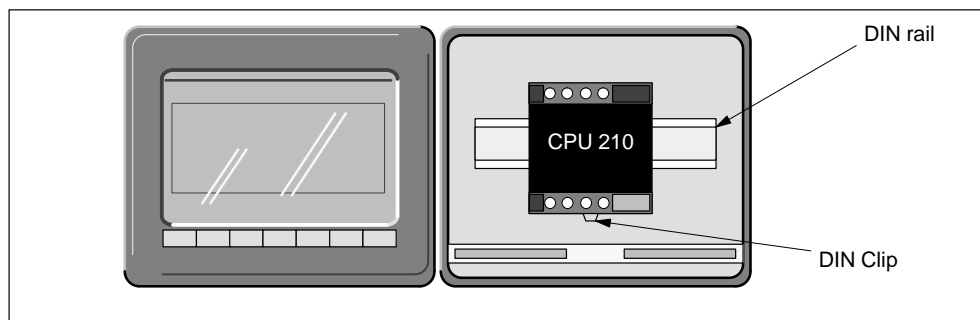

Figure 1-9 Installing the CPU 210 in a Panel Box
3. Open the panel box and hook the back of the module onto the DIN rail. See Figure 1-9.